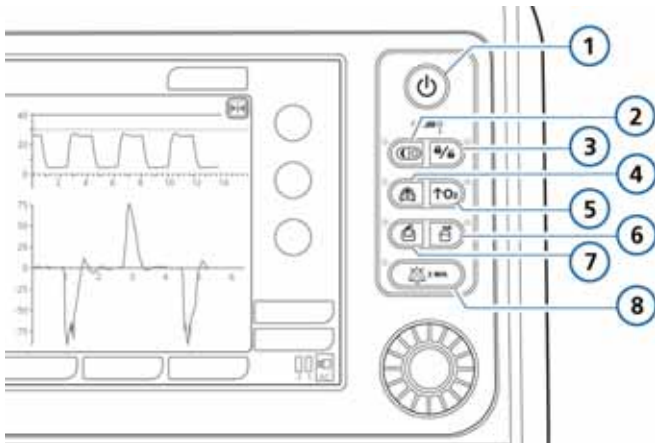

Figure 10-1. Special function keys
► Press and release the Manual breath key (Figure 10-1) during exhalation.